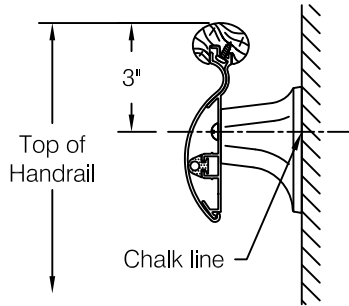

fig 1
- Step 1:** Determine top of handrail and snap a chalk line 3" below for centerline of mounting hardware, see **fig 1**.